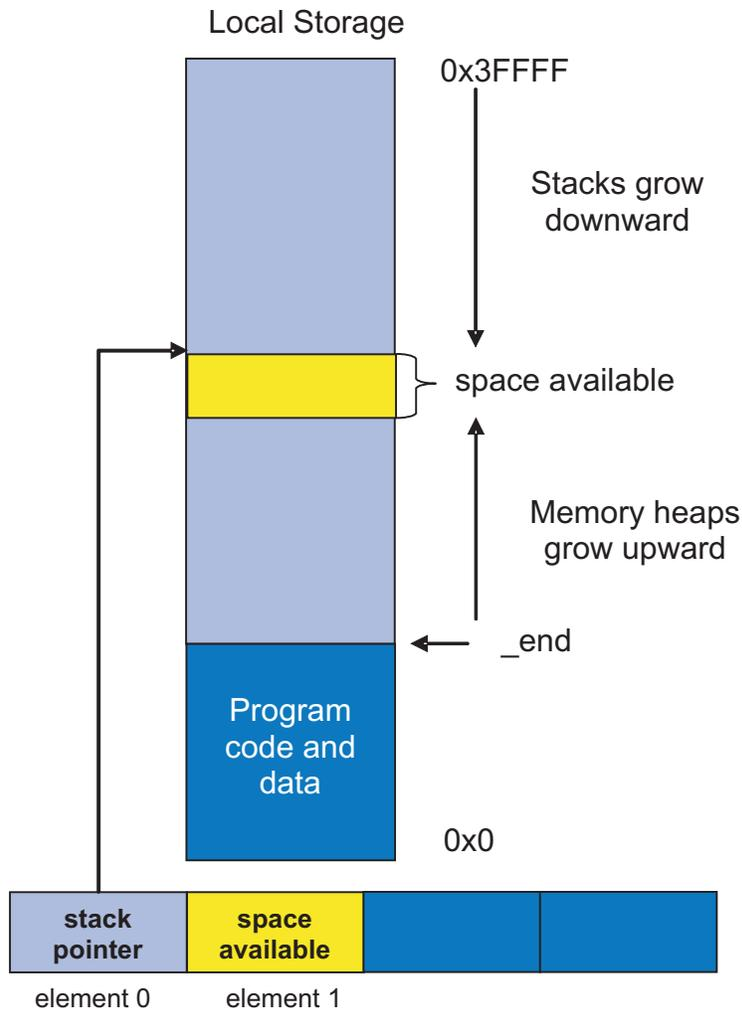

Figure 2. SPE local storage and stack anatomy
**Overview:** To understand how to debug stack overflows, it is important to understand how the SPE local storage is allocated and the stack is managed, see Figure 2 on page 34.